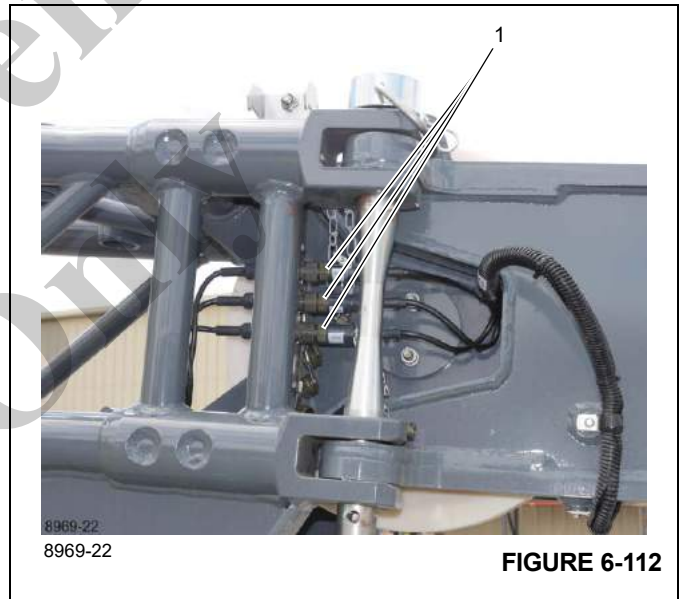

FIGURE 6-112
2. Connect the plugs (1), (Figure 6-112) to the sockets making sure the plug wire number corresponds to the socket number.